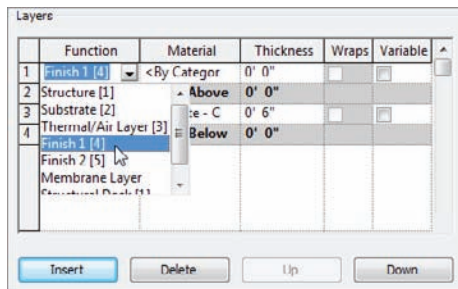

FIGURE 6.22 Choosing a layer function
- The new layer is added. You will now see that the field is divided into columns. The first column is the Function column, which is currently set to Structure. This cell is a drop box containing the other available functions. Click the drop-box arrow and select Finish 1 [4] (see Figure 6.22).